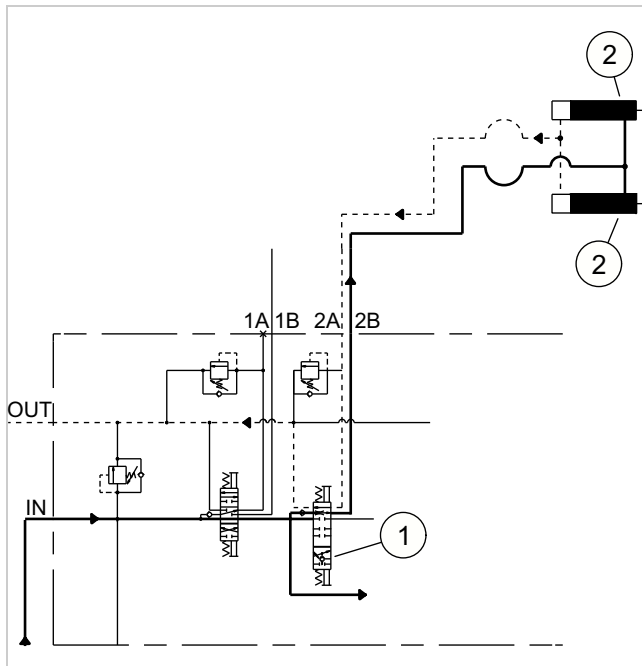

Fig. 15 (32067-01)
See Figure 15. When the tilt lever is pulled back, it positions the tilt spool (1) in the control valve and allows hydraulic oil to flow out of the 2B port of the control valve.